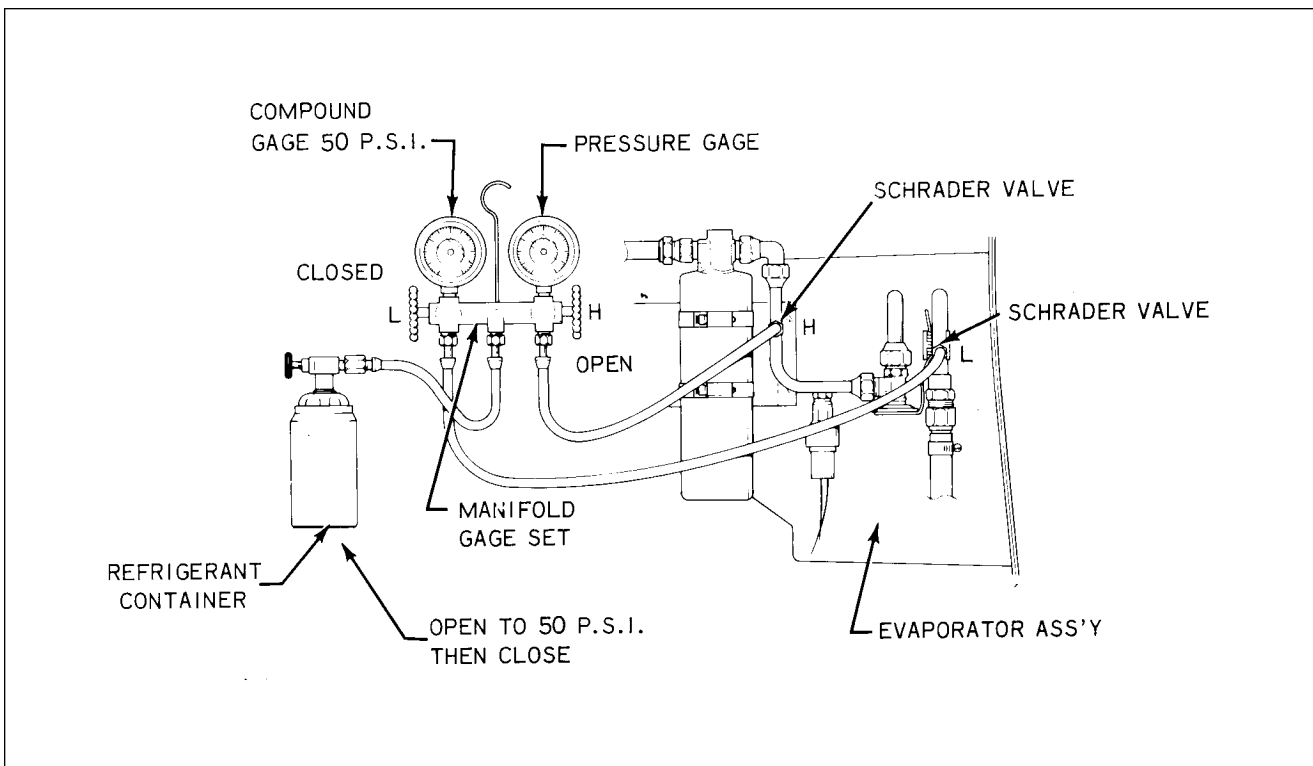

Figure 21-8. Leak Test Hookup
1. Connect the manifold gauge set into the system and determine if there is any refrigerant in the system. A minimum of 50 psi refrigerant pressure in the system is needed for leak detection. (Refer to Figure 21-8.)